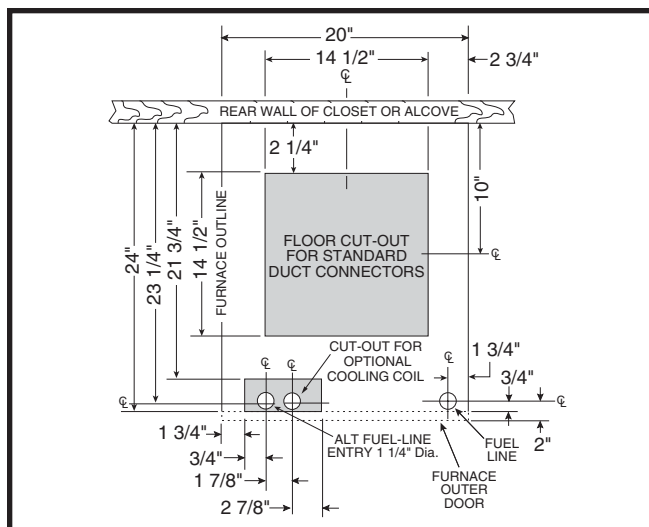
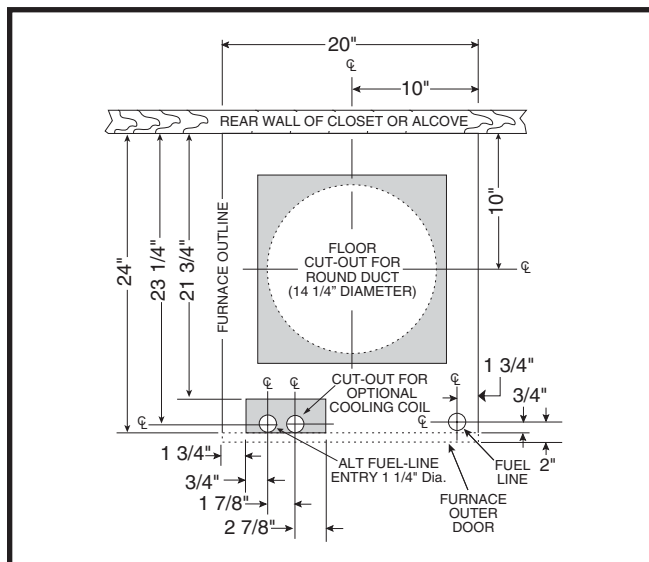

Figure 6. Cut-Out Dimensions for Standard Duct Connectors
Figure 7. Cut-Out Dimensions for Round Duct Connectors
To locate standard ducts see Figure 6. For round ducts,
- Measure and drill gas hole and cut out for cooling coil (if applicable). See Figure 6 or Figure 7.